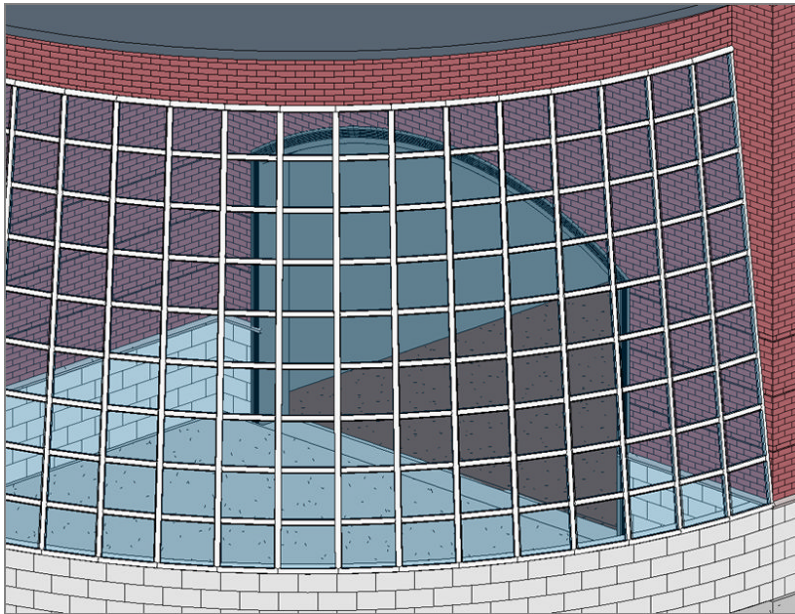

FIGURE 17.32: The finished family
27. Go to a 3D view. Your opening should look like Figure 17.32.